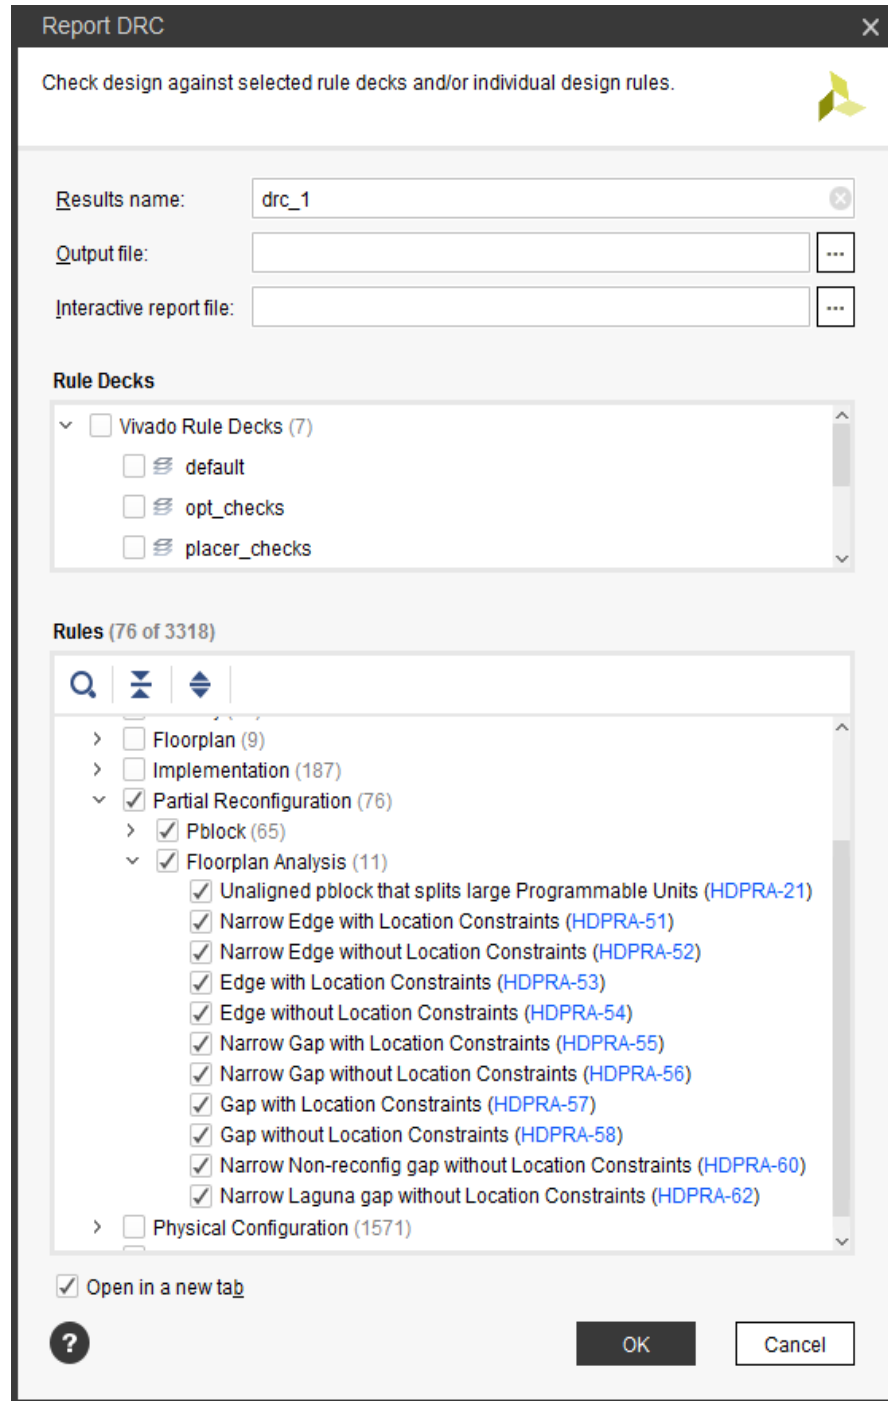

Figure 3-1: Partial Reconfiguration DRCs in the Vivado IDE
4. Design rule checks (DRCs) can be issued to validate the floorplan and other design considerations for the in-memory configuration. To run, select **Reports > Report DRC** and ensure the Partial Reconfiguration checks are present (see Figure 3-1, page 36). Note that if `HD.RECONFIGURABLE` has not been set on a Pblock, only a single DRC is available, instead of the full complement shown below.